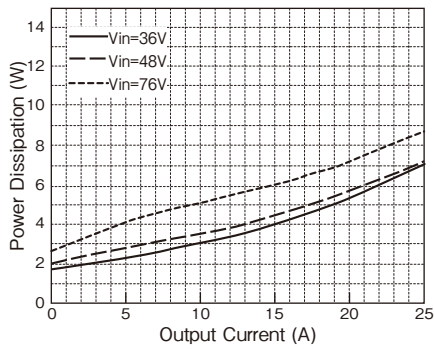

Fig.1-4 PAQ100S48-1R2/B Power dissipation vs Output Current (Output voltage: Nominal, $T_a=60^\circ C$; typical value)
- 2) When the condition of input voltage and output voltage are different and it is impossible to determine power dissipation (Pd) from Fig.1-4 to 1-8, calculate power dissipation as follows.